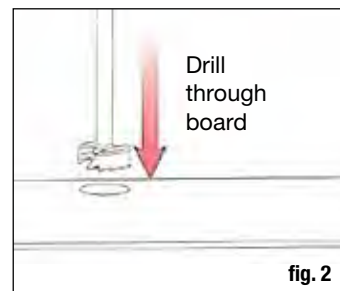

fig. 2
**Step 3:** Use a 1-1/4" Diameter Forstner Bit or Bi-Metal Hole Saw to bore a flat bottom hole through the deck board (fig. 2). Disconnect the male end of the harness from the female end of the light. Insert the male end of the harness through the back of the drilled hole.
**Step 3:** Use a 7/8" Diameter Bi-Metal Hole Saw for aluminum posts or a 7/8" Forstner bit on nonmetal posts and boards to bore a flat bottom hole (fig. 2). *Note: Ensure the diameter is no larger than 7/8", as the light requires a tight fit for ideal function. It is recommended to ensure the bit will provide a tight enough hole on a scrap piece of post or deck board before drilling. Disconnect the male end of the harness from the female end of the light. Insert the male end of the harness through the back of the drilled hole.*